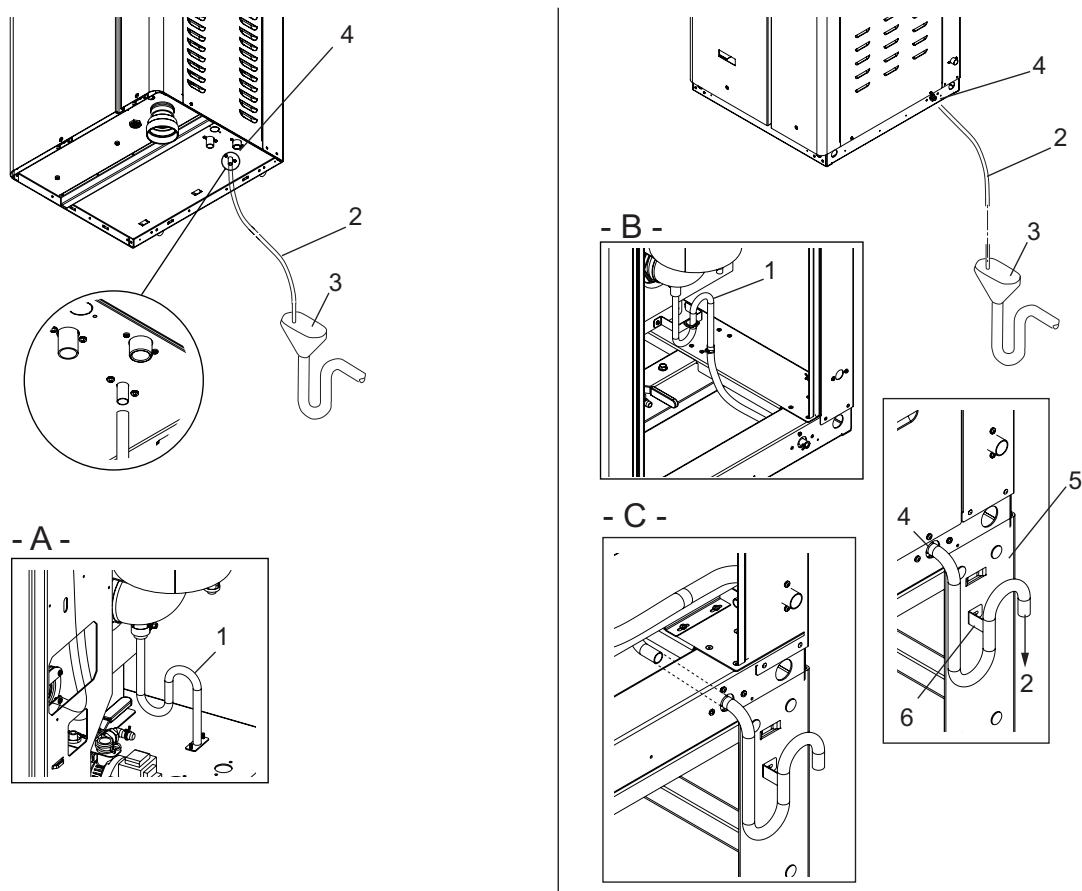

Figure 16: Exhaust Condensate Drain Line.
Install the exhaust condensate drain line (CS/NX model only) as shown in Figure 16.
The exhaust condensate drain is to be installed according to Figure 16 on page 33 and the applicable local plumbing codes.
- Install the condensate drain hose (CS/NX model only), and secure it with a hose clamp – refer to Figure 16 on page 33. The hose must be rated to 212 °F (100 °C). Connect the hose to a condensate neutralization device, if required by local code, before connecting the hose to a drain.